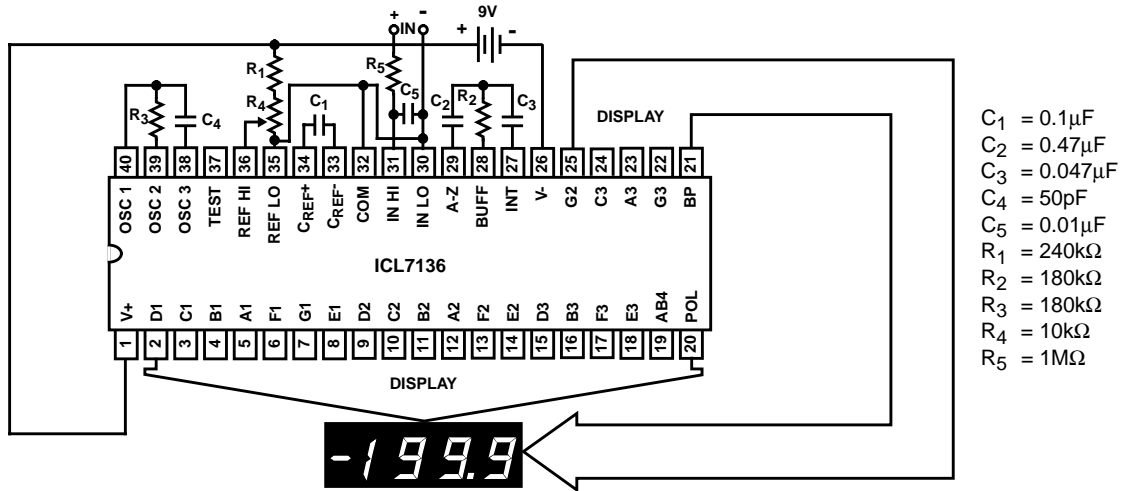
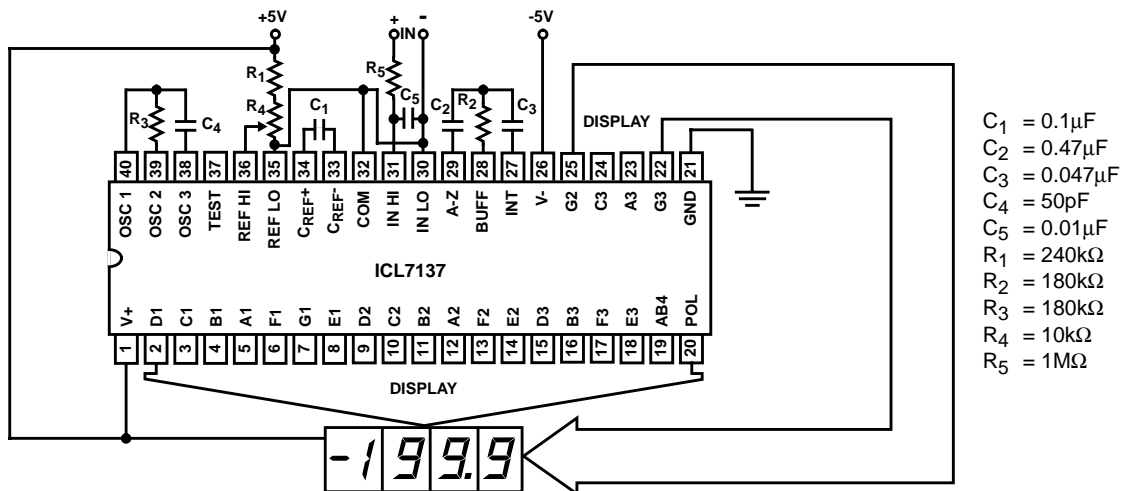

FIGURE 1. ICL7136 TEST CIRCUIT AND TYPICAL APPLICATION WITH LCD DISPLAY COMPONENTS SELECTED FOR 200mV FULL SCALE
FIGURE 2. ICL7137 TEST CIRCUIT AND TYPICAL APPLICATION WITH LED DISPLAY COMPONENTS SELECTED FOR 200mV FULL SCALE
- Unless otherwise noted, specifications apply to both the ICL7136 and ICL7137 at TA = 25°C, fCLOCK = 48kHz. ICL7136 is tested in the circuit of Figure 1. ICL7137 is tested in the circuit of Figure 2.